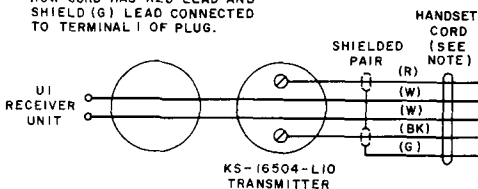

Fig. 2 — KS-16504 Handset Connections
3.01 Internal connections for the KS-16504 type handset are shown in Fig. 2.